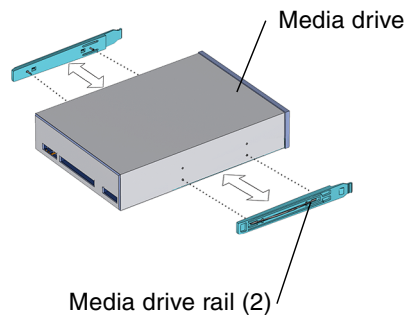

FIGURE 13-53 Installing Drive Rails on a Media Drive
4. Install the drive rails (FIGURE 13-53).